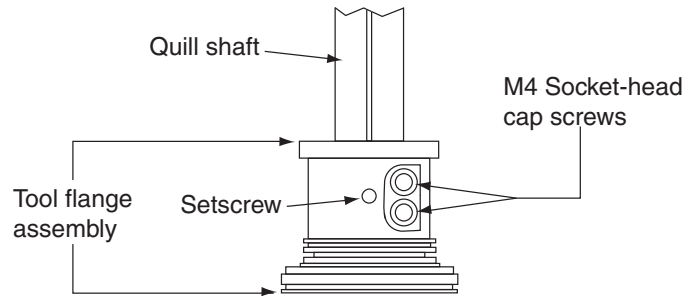

Figure 6-1. Tool Flange Removal Details
3. Use a 2.5 mm hex driver to loosen the setscrew (see Figure 6-1).